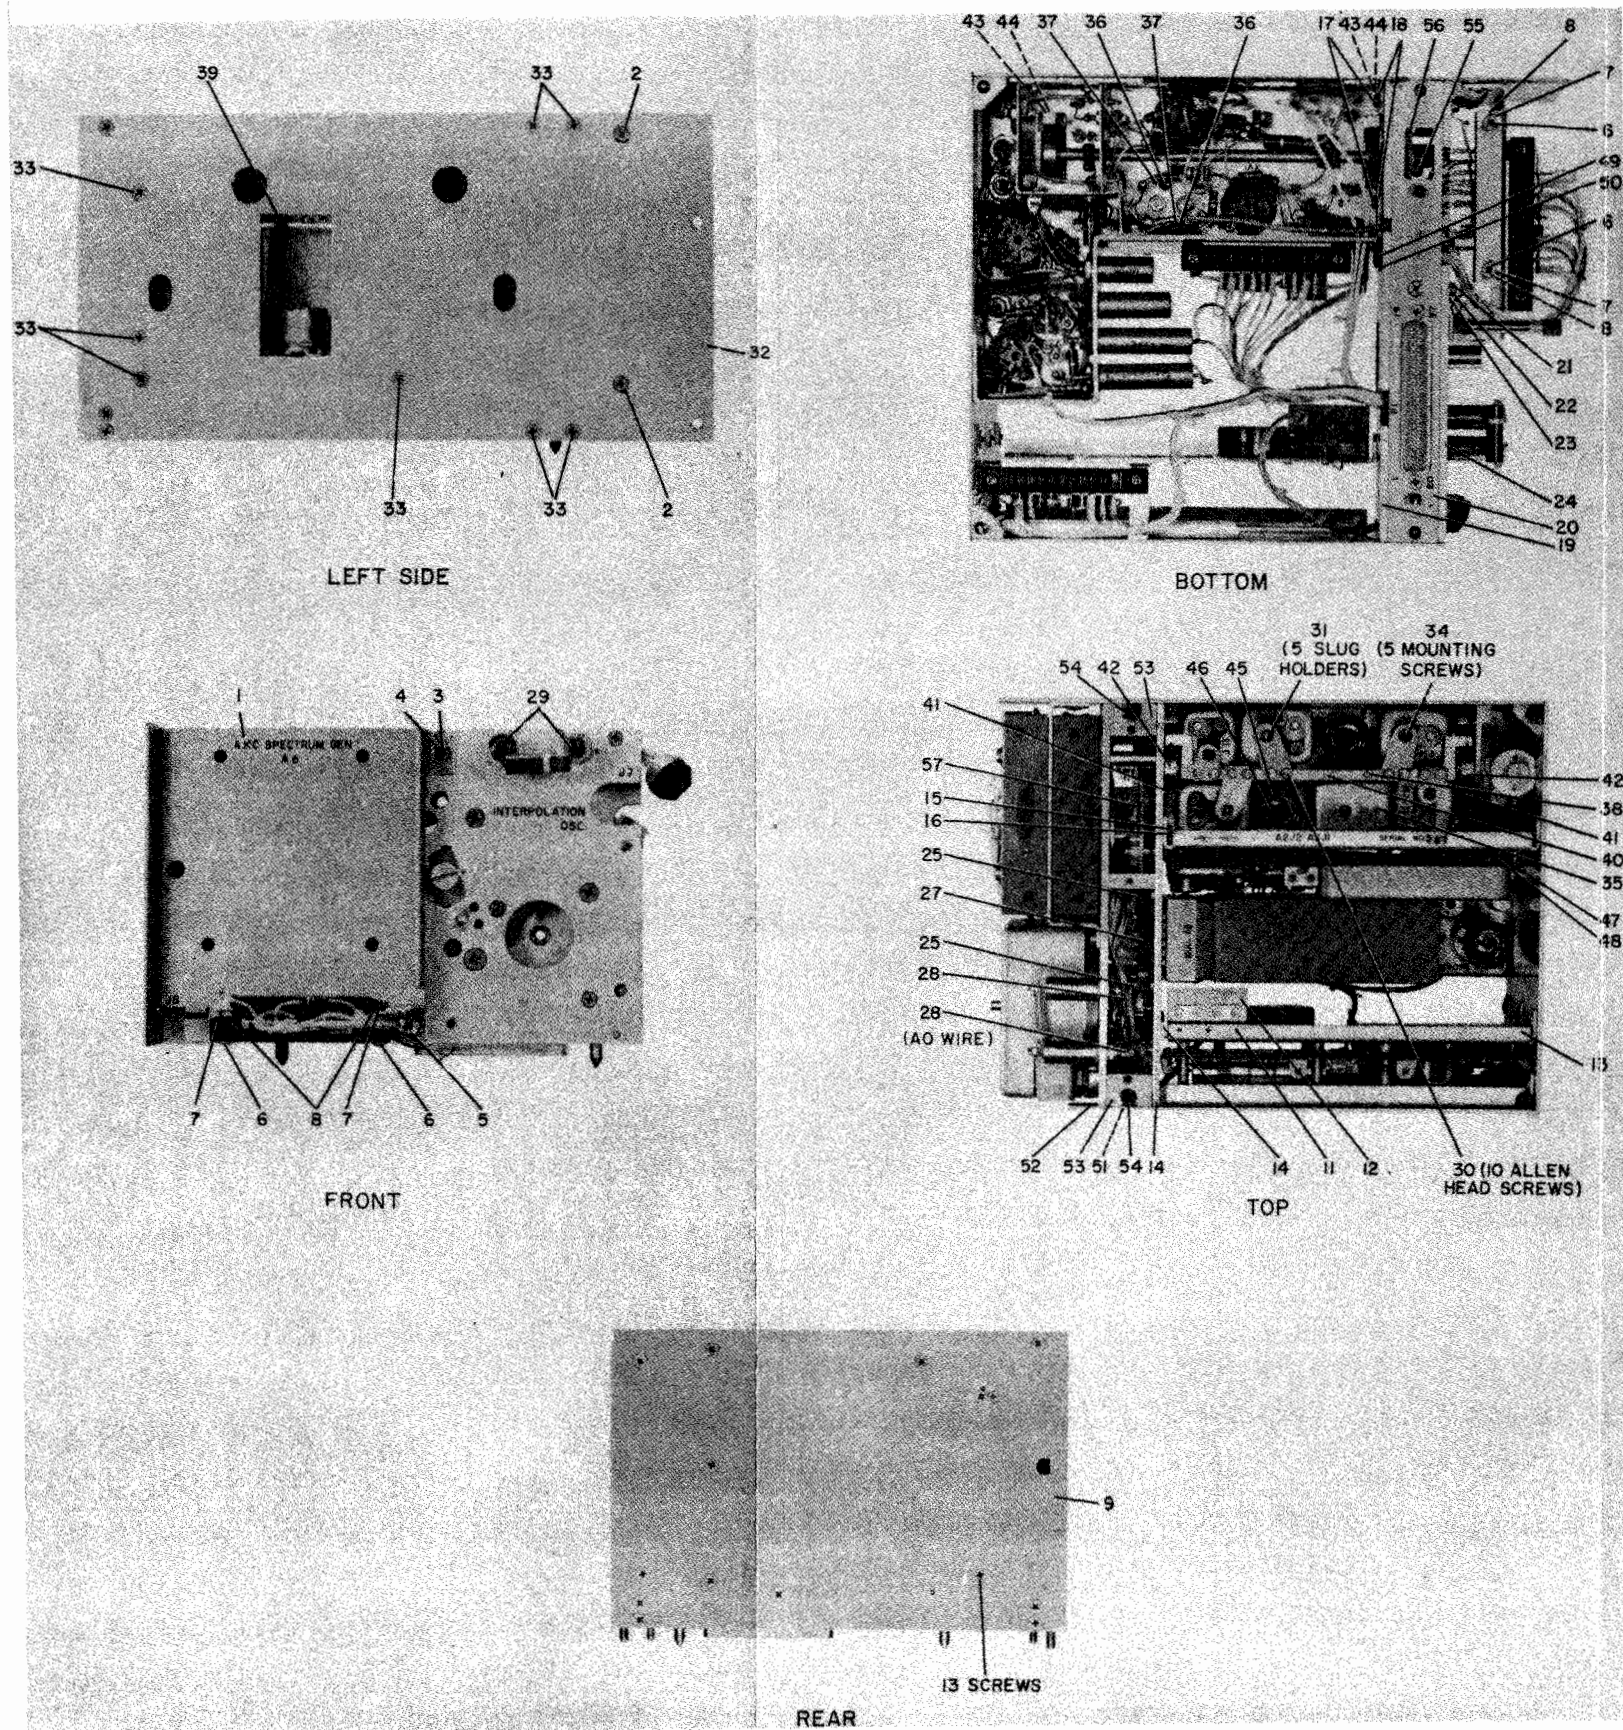

Figure 3-8. Stabilized Master Oscillator, Front,
b. REMOVE SMO GEAR ASSEMBLY AND SLUG RACK. - Refer to figure 3-8 and proceed as follows:
(1) Remove the 4-kc spectrum generator bracket (1) by removing two flathead screws (2) from left side plate, one binder-head screw (3) and lock washer (4) from front, and one standoff (5) from front.
(2) Remove the four screws (6), nuts (7), and lock washers (8) that mount plugs J5 and J8 to spectrum generator bracket.
(3) Remove the rear panel (9) by removing the thirteen flathead screws (10).
(4) Remove the three screws (11) that mount board (12) to bracket (13).
(5) Remove the two flathead screws that mount the right center bracket (13) to the gear plate (14).
(6) Remove the top binder-head screw (15) and lock washer (16) that mounts the left center bracket to the gear plate (14) (the lower screw and lock washer will be removed later).
(7) Remove the two binder-head screws (17) and lock washers (18) that mount the tube chassis to the gear plate.
(8) Remove the three flathead screws (19) that mount the rear bottom edge of gear plate (14) to the block (20) between the gear plates, (block on which P1 plug is mounted).
(9) Remove the two binder-head screws (21), lock washers (22), and solder lugs (23) from front lower edge of gear plate (24).
(10) Remove the two retaining rings (25) and washers (26) that mount plug J1 (27) to rear gear plate (14).